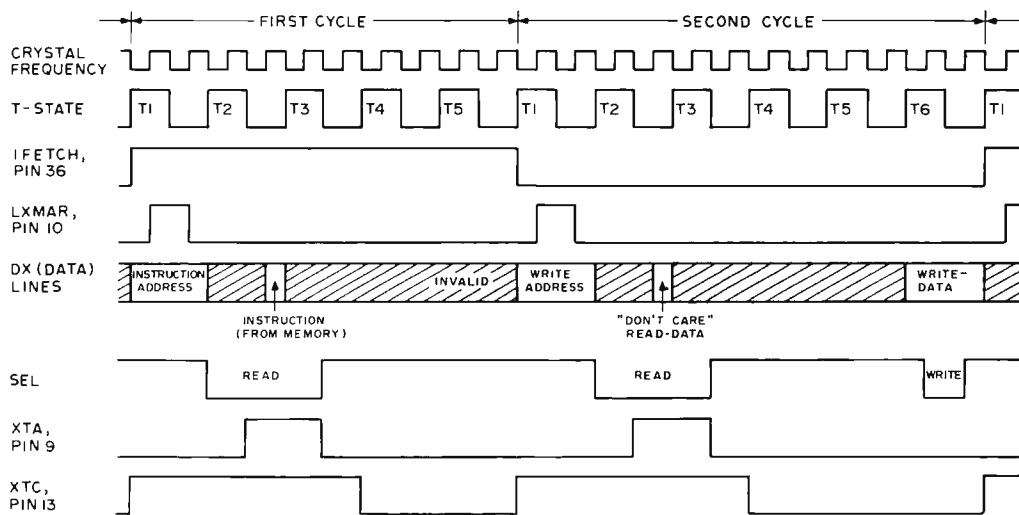

Figure 1: IM6100 CPU Timing Diagram. This is an example of the timing of several IM6100 processor signals during the execution of a DCA instruction.
Pin 9: XTA line. This timing line goes high once each machine cycle. It is typically used by external logic to indicate the "read" portion of the cycle. See the timing diagram of figure 1.
IM6100 timing is quite easy to understand. Refer to the basic CPU timing diagram shown in figure 1. This diagram is given in the form of an example — the complete fetch and execute cycles of a DCA instruction. This instruction deposits the 6100 accumulator contents into a selected memory location, then clears the accumulator.
4. DX line data moves in both directions, to and from the 6100. Only in *some* T-states is this data valid; in other states these lines are in the high impedance state and just float. See the timing diagram, figure 1.